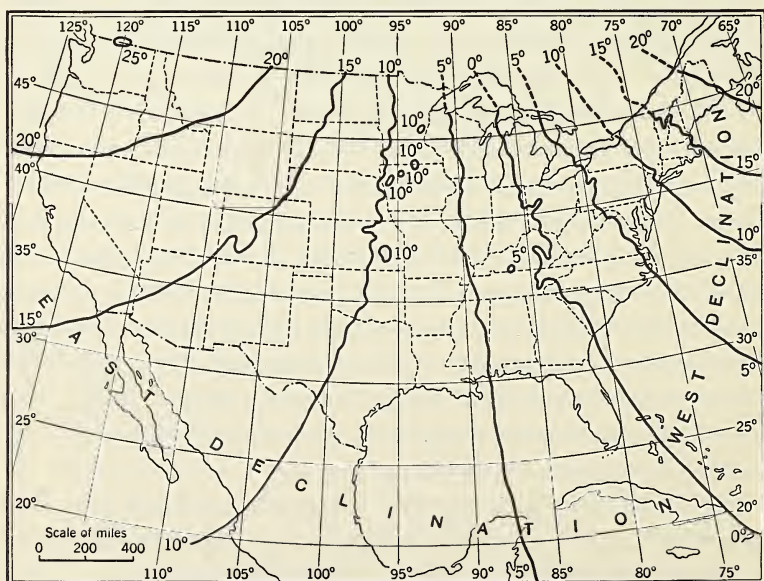

FIG. 13-8. This map shows magnetic declination.
291. Why does not the compass needle point to the true north? At a few places on the earth, the north-seeking pole of the compass does point to the true north. If you look at the map of Figure 13-8, you will find a line marked zero. It passes through Lake Superior, Michigan, Ohio, Kentucky, Tennessee, North Carolina, and South Carolina. A compass needle placed on this zero line points toward the north magnetic pole and also to the north geographic pole, because they both happen to be practically in line with one another as we follow this line northward.
13. Examine the map of the United States shown in Figure 13-8. What is the magnetic declination of Washington, D. C.? of Los Angeles? of San Francisco? of Denver? of Detroit? of Chicago? of Salt Lake City? of Minneapolis? of New Orleans?